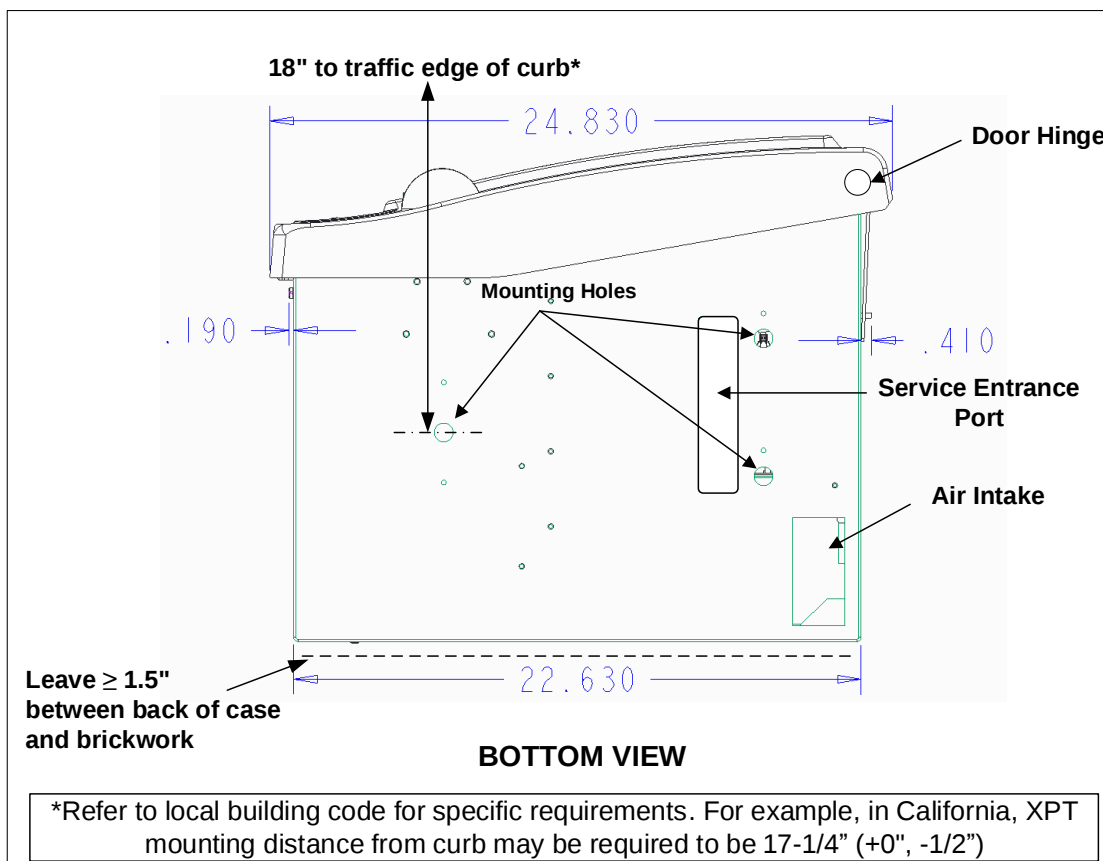
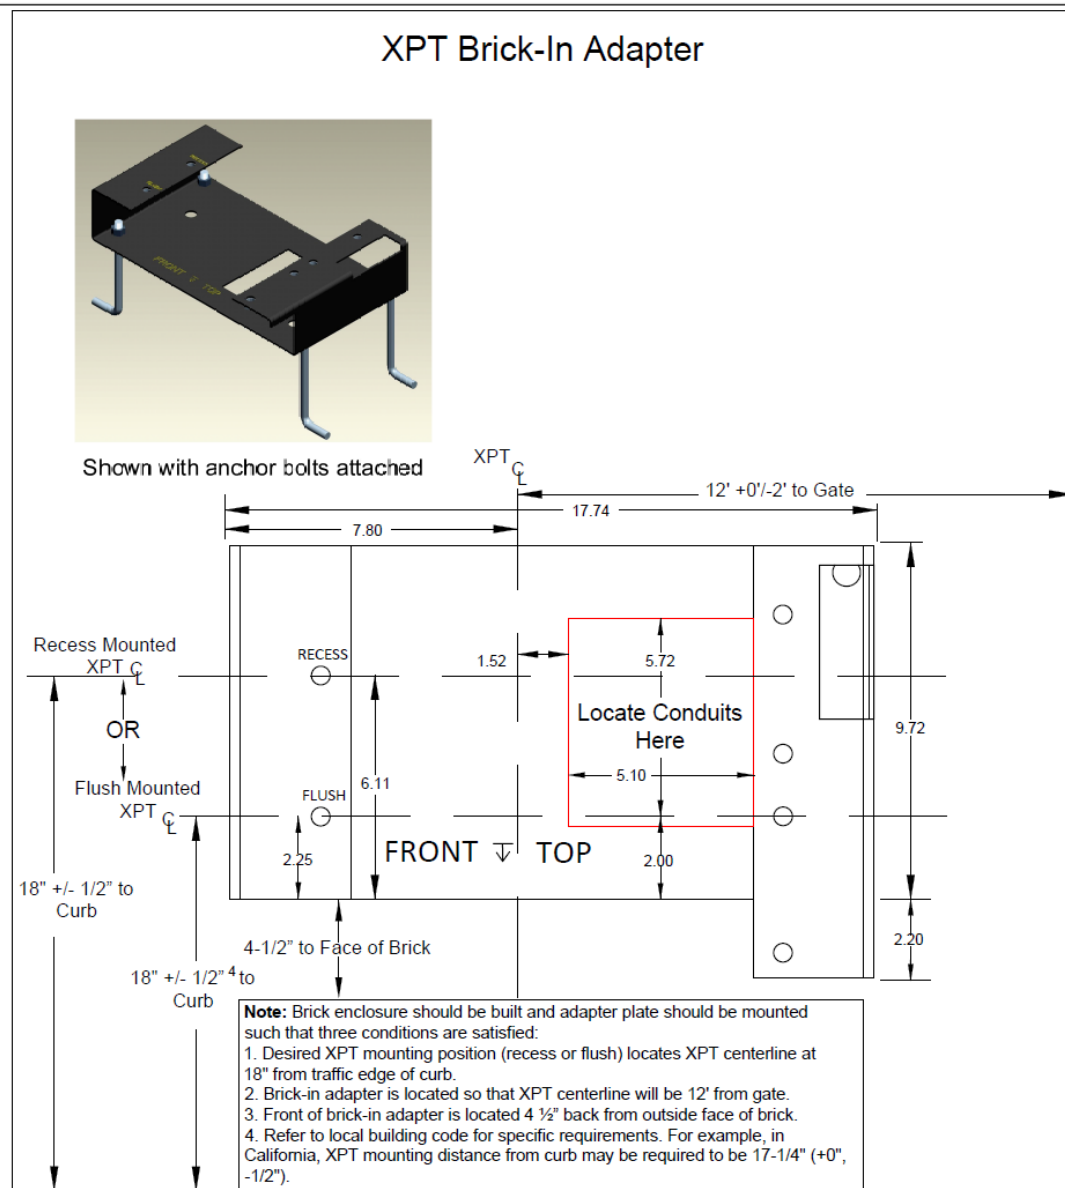

Figure 14. Bottom View of XPT
Figure 17. Brick-In Adapter
- Conduit should be placed to align with the rectangular cutout in the brick-in adapter plate, as shown in Figure 17. Figure 14 also provides a low-detail footprint of the bottom of the XPT.
The brick-in adapter does not share the same centerline with the XPT. Refer to Figure 17 to determine the installed XPT centerline relative to the brick-in adapter.
3. Verify conduits are properly located according to the cutout in the brick-in adapter, as shown in Figure 17.